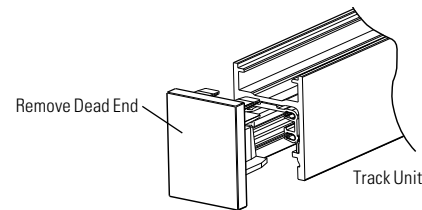

Fig. 1
1. Remove Dead End Cover if necessary by pulling it out of Track (save Dead End Cover). Fig 1.